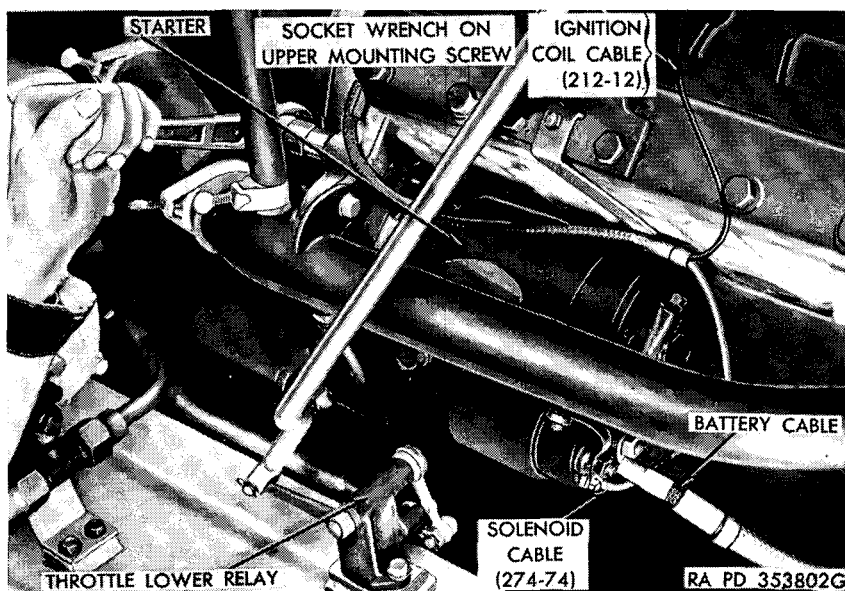

Figure 64. Removing starter.
- (3) *Disconnect battery cable.* Remove nut from battery cable and lift cable off terminal. Disconnect cable from starter solenoid by removing nut and lifting off terminal.
- (4) *Remove starter.* First remove upper mounting screw (fig. 64) which passes through flywheel bell housing; then remove bottom screw while supporting weight of starter with other hand. Remove starter through hull floor opening.